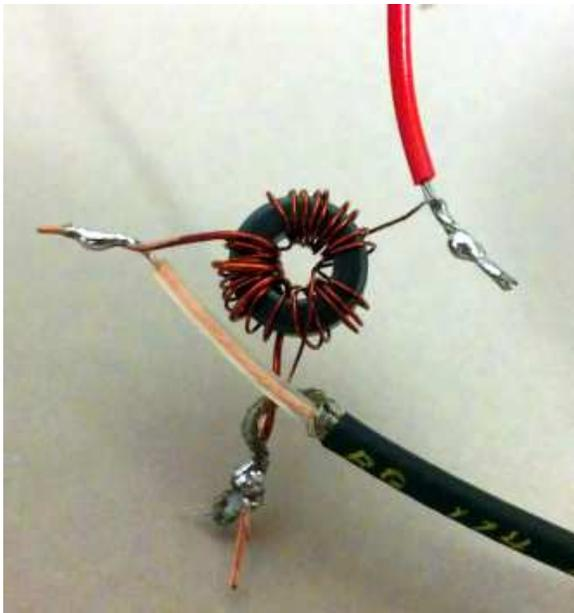

Figure 27: Soldering Toroid
1. Twist together and solder one end of the thin magnet wire, one end of the thick magnet wire, and the braid from the coax (Figure 27: Soldering Toroid).
Your antenna should look like Figure 27: Soldering Toroid.